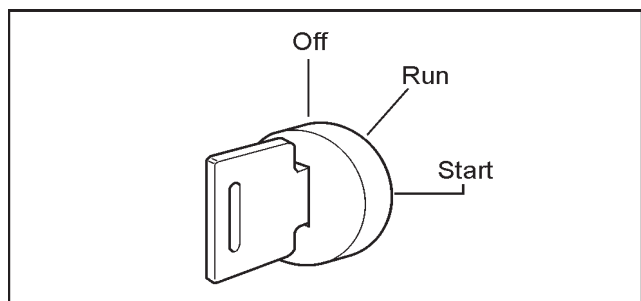

Figure 3-5. Ignition Switch.
1. Place the gearshift in the neutral (N) position.
4. Turn the key to the "START" position. (See Figure 3-5).